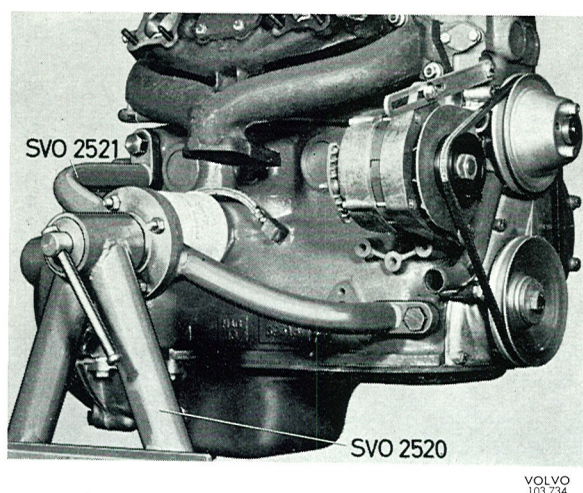

Fig. 2-20. Engine in stand
1. Place the engine on stand SVO 2520 with fixture SVO 2521 (see Fig. 2-20). Check that the oil has been drained off.